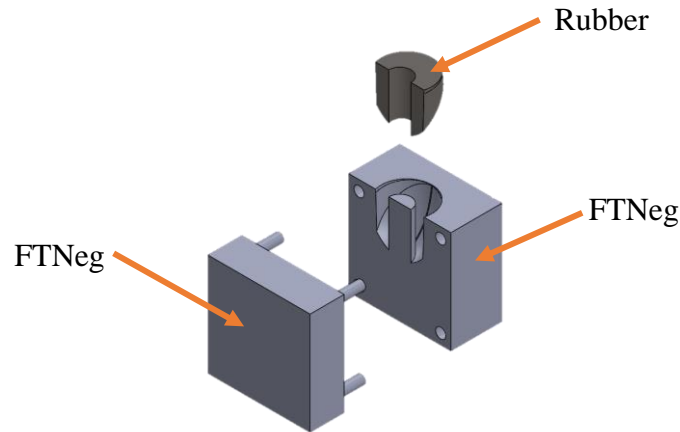

Figure 3: Negative molds for fingertips and thumb
4. Afterwards, pull apart the mold and repeat the process over again until you have 4 fingertips (**Figure 3**).
Refer to **Figure 3**, Section 5.1.2—similar mold cast for the thumb.